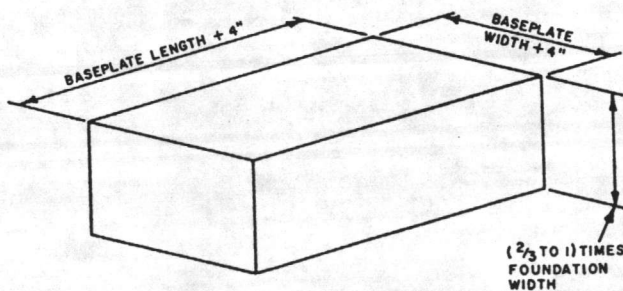
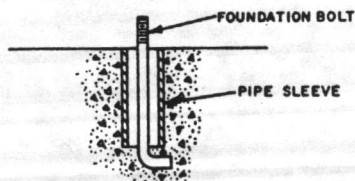

Fig. 1—Foundation Block
Fig. 2—Foundation Bolt
The foundation serves to carry the pump weight and to absorb vibration. Normally, the foundation is made of concrete block, preferably tied in with the floor or ground. Make the foundation block about 4" longer and 4" wider than the base of the frame. Height of the block may vary from 2/3 to 1 times the width of the foundation (Fig. 1). When foundation is poured, provide a hole near each of the four (4) corners. To simplify installation and maintenance use lead Anchors. Place the front Anchor about 2" from the edge of the foundation to clear overhanging casings (Fig. 2).